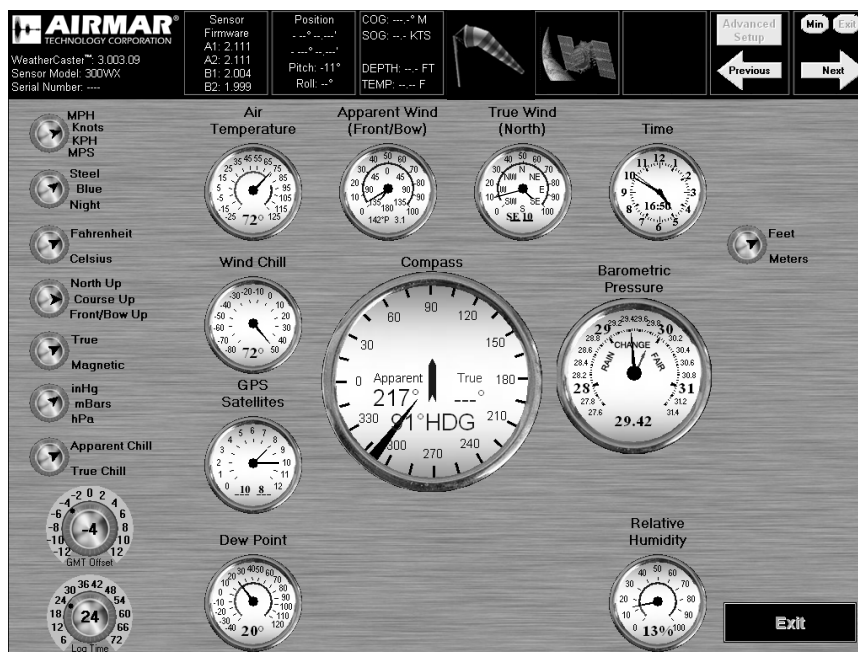

Figure 24. Setup Screen
When the WeatherCaster software opens, you will see a Setup screen with gauges and dials (see Figure 24). The gauges display the data being sent from the sensor in both analog and digital format. The dials along the left side are settings that can be changed by the user. *This screen is for setting up the display only.*
- **Setup Screen**—This screen contains gauges with dials along the left side. The dials have settings that can be changed by the user (see Figure 24).